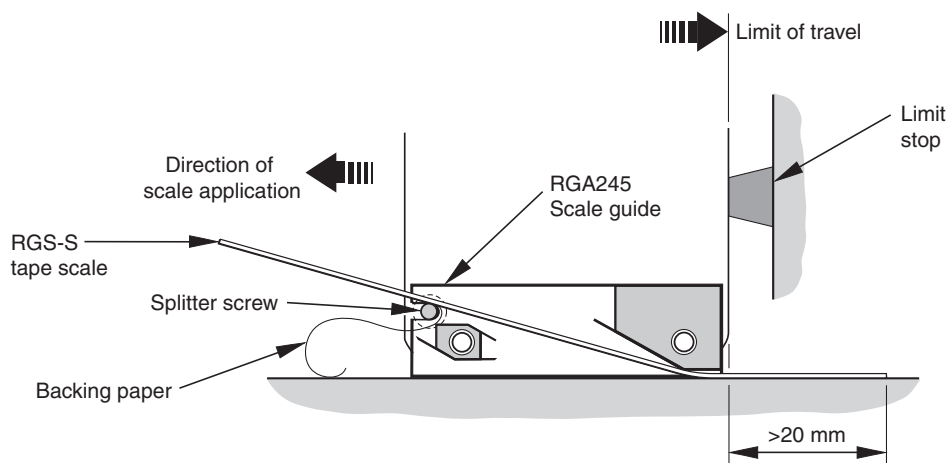

Figure 2
- ▶ Move the guide to the start of axis travel. Note the direction of scale application as shown in Figure 2.
- ▶ Separate the backing paper from the first 40mm of scale and feed it into the scale guide as shown in Figure 2 and lock in place by turning through 90°.
- ▶ Relocate the splitter screw behind the backing paper as shown in Figure 2.